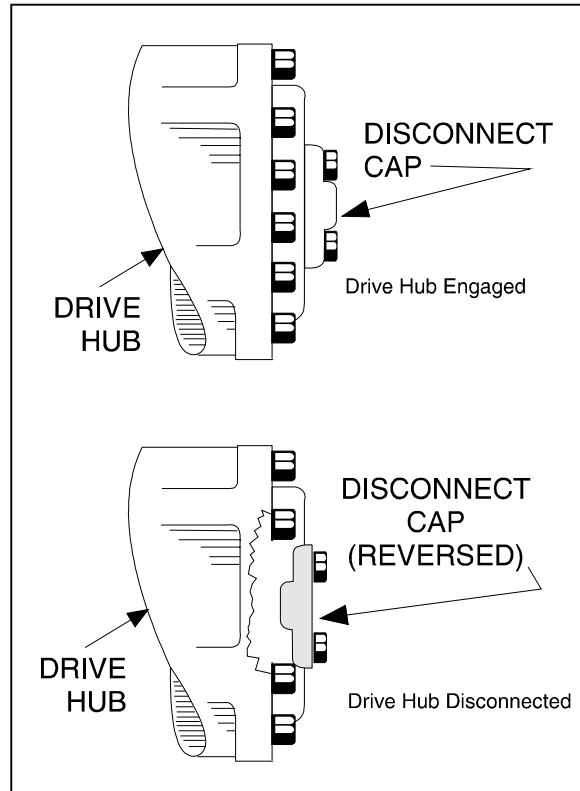

Figure 4-6. Drive Disconnect Hub
2. Disconnect drive hubs by inverting disconnect cap. (See Figure 4-6.) After towing the machine, complete the following:
3. Reconnect drive hubs by inverting disconnect cap. (See Figure 4-6.)